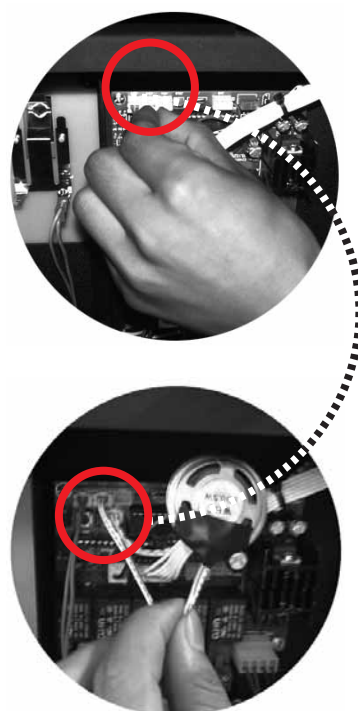

Fig. 5.6-2 Check the main circuit board with a new speaker.
- Unplug the problem speaker wire connection from the main circuit board, and connect a new speaker to the main circuit board (Fig. 5.6-2).